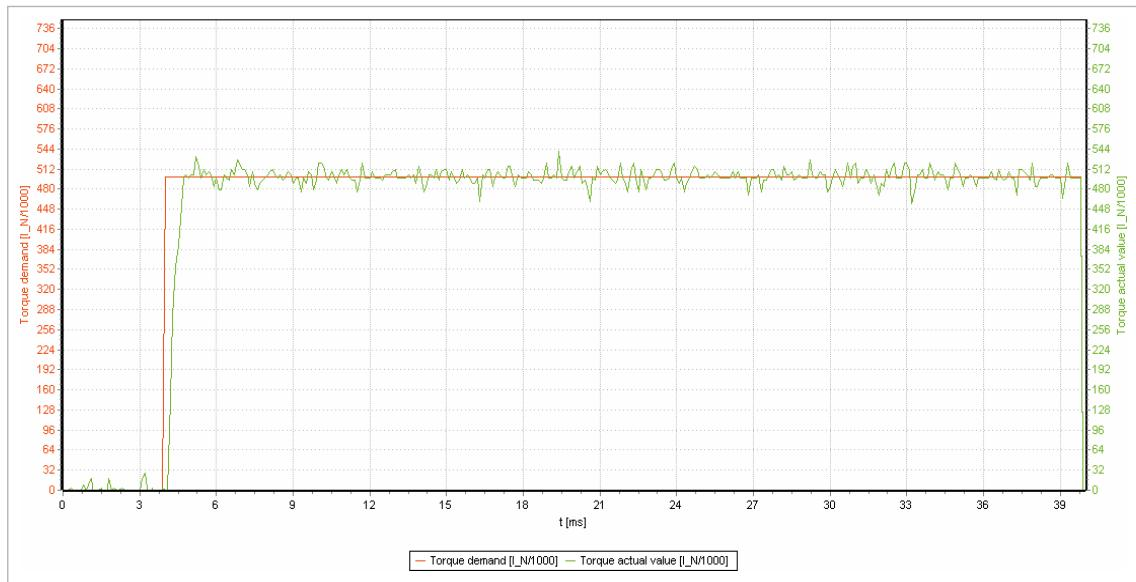

Fig. 8: Set-point jump at the torque control
- i** For manual optimisation of the current controller, apply set-point jumps to the current controller with the motor braked to a standstill, and adjust the two controller gains $K_{P,I}$ for torque and field controller via objects 0x2342.01 and 0x2343.01 in a similar manner (see Fig. 8).